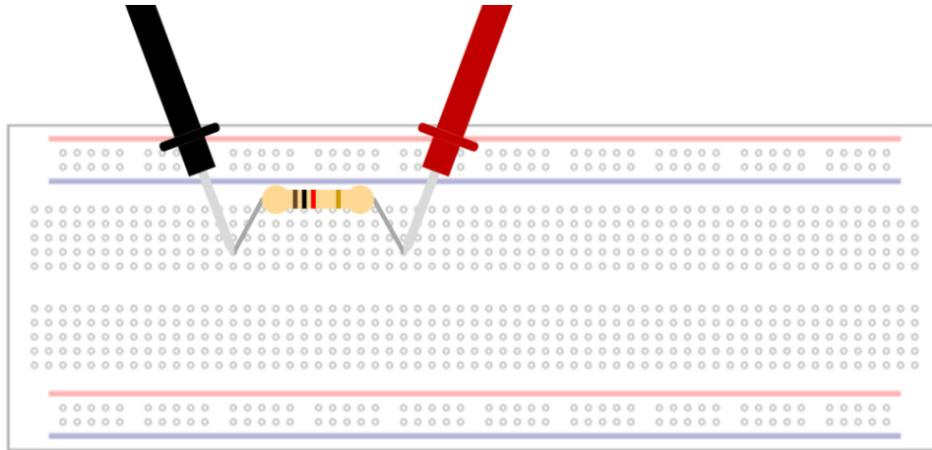

Fig. 3: Carefully place the resistor in the breadboard as shown and measure the resistance in Ω . The resistor in this figure is an example resistor only.
3. Carefully (it is easy to bend the resistor leads and hard to re-straighten them) place the 30 k Ω resistor in the breadboard and measure the resistance in Ω (see Fig. 3).